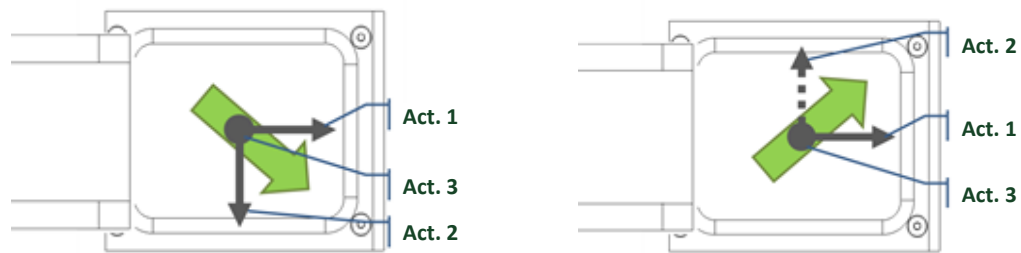

Figure 5-1: Asycube 50 & 80 – Actuator Disposition and Example
The Asycube 50 and 80 work with three actuators: two in-plane actuators (Figure 5-1: Act.1 and Act.2) and a vertical one (Act.3). Below, some hints that are useful to adjust the vibrations:
- The direction of the movement of the parts on the platform is a result of the combination of the two in-plane actuator vibrations (Act. 1 and Act.2). Switching the phase from 0° to 180° the direction of the displacement is inverted (Figure 5-1). The amplitude of the Act. 3. may be different from one direction to the other.